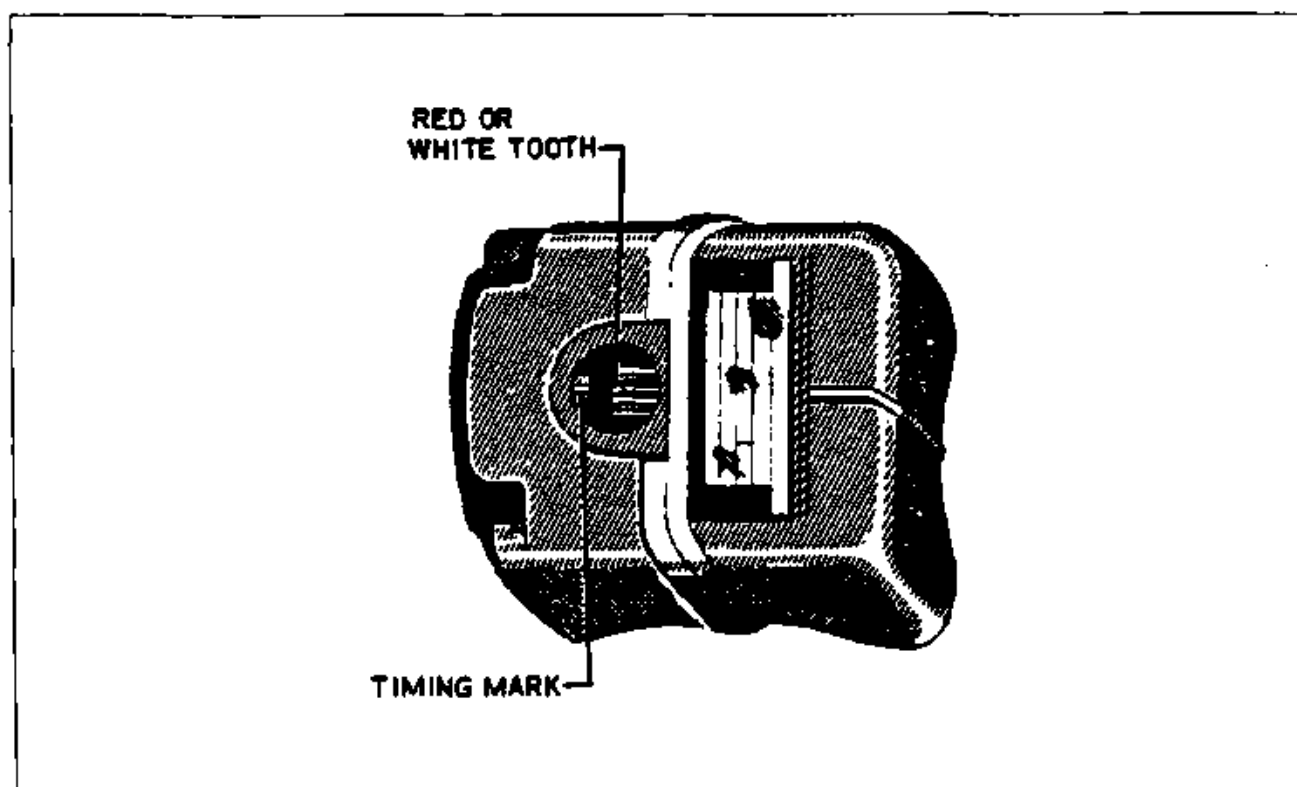

Figure 8-1. Magneto Timing Marks
- c. Rotate coupling from neutral in the direction of rotation 10 degrees. Appearing through timing hole, when the white or red tooth aligns with the white line of the distributor block the magneto is set at "E" gap. (Refer to Figure 8-1.)
- c. Rotate the drive gear on the magneto until the chamfered tooth on the distributor gear inside the magneto aligns with the white pointer as seen through the inspection hole in the magneto housing. (Refer to Figure 8-1)